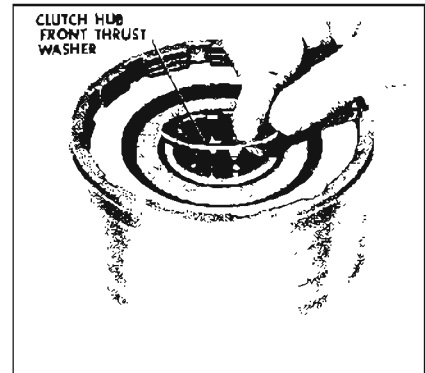

Figure 5-216
5. Remove clutch hub front thrust washer. See Figure 5-216.